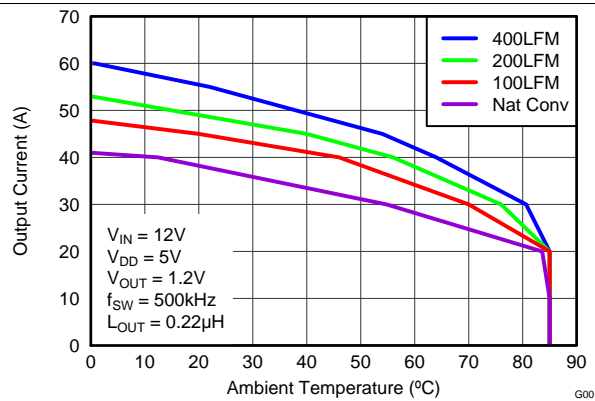
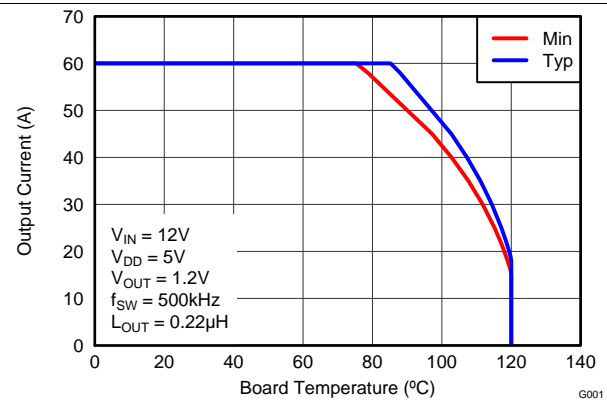

Figure 3. Safe Operating Area – PCB Horizontal Mount ⁽¹⁾
Figure 4. Typical Safe Operating Area ⁽¹⁾
The SOA curves in the CSD95372AQ5M datasheet give engineers guidance on the temperature boundaries within an operating system by incorporating the thermal resistance and system power loss. Figure 3 and Figure 4 outline the temperature and airflow conditions required for a given load current. The area under the curve dictates the safe operating area. All the curves are based on measurements made on a PCB design with dimensions of 4.0" (W) x 3.5" (L) x 0.062" (T) and 6 copper layers of 1 oz. copper thickness.